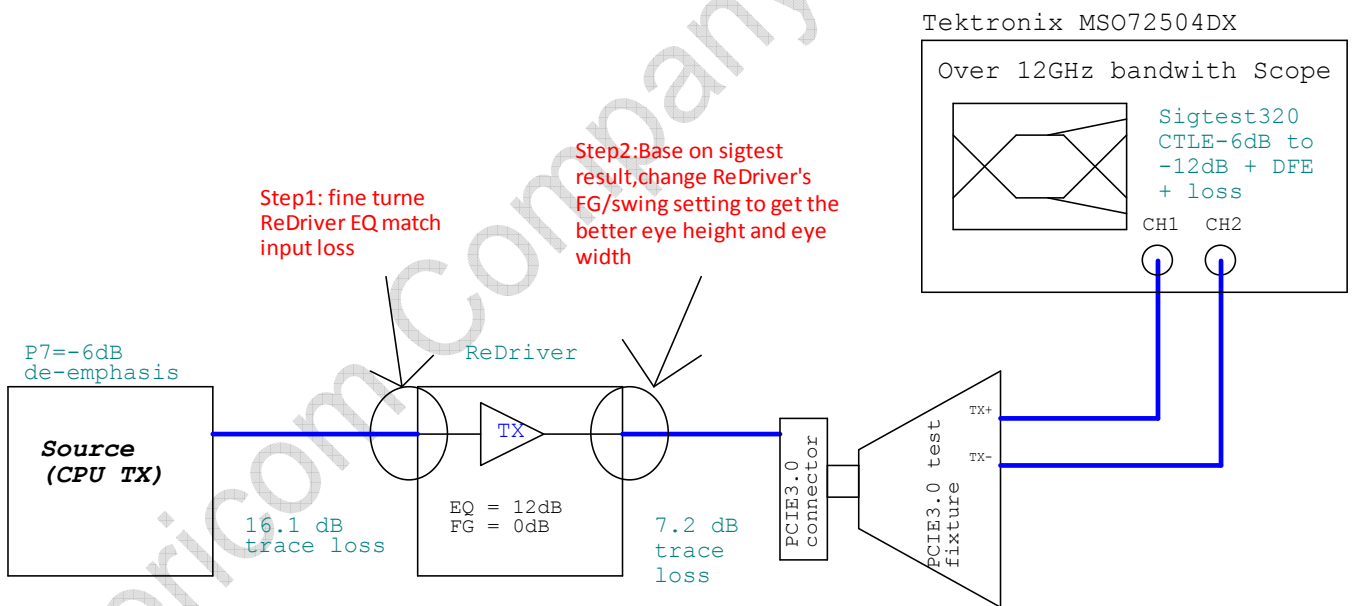

Figure 4 PCIe3.0 test setup example
- FG and EQ Tuning:** Below Figure 4 and 5, the PCIe3.0 test setup shows “How to do the EQ/FG tuning”. The EQ mainly relates to the Re-driver input loss, and Figures 6 to 8 shows the typical EQ/FG settings vs. eye height and eye width. The 8908A is tuned from the procedure below.
Below Figure4 is standard PCIe TX compliance test, from Tektronix 25GHz scope sigtest result , we can get the eye height and eye width result then change EQ or FG to get better result. If re-driver input loss is bigger→ increase more EQ value, if output eye height is not good enough→increase FG value.